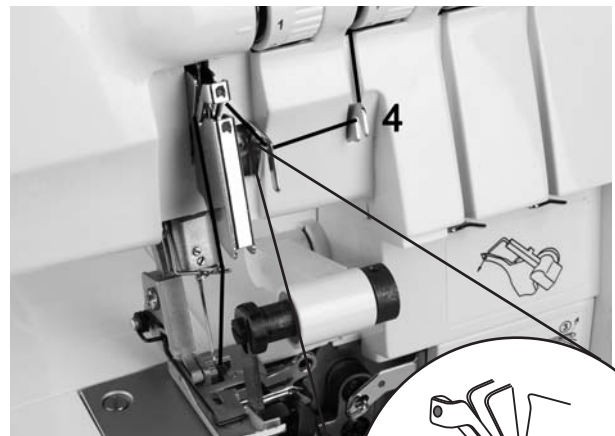

Fig. 27
4. Thread the yarn as per the green markings (4- 7) (Fig. 27/28).